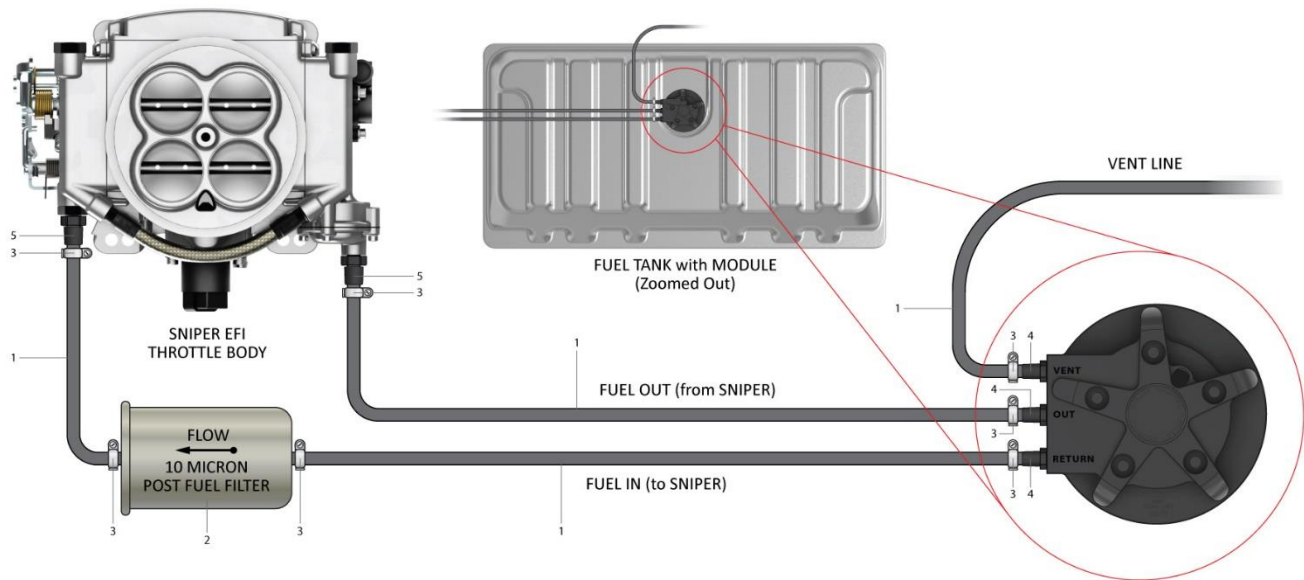

Figure 1 – 526-10 shown above
1. Use **Figure 1** below as a reference for the orientation and location of the fuel system components:
2. The post-fuel filter (**Item 2**) should be installed between the electric pump outlet and TBI unit. This is a 10 micron EFI filter. Position the filter, so the fuel hoses can be routed without kinks or sharp bends. The filter should be installed with the arrow on the filter pointing in the direction of the fuel flow (Figure 1).
You are now ready to install the fuel lines. Some connections will use hose clamps (**Item 5**), while others will use AN hose ends (**Item 5**). These connections are noted in **Figures 1**. Be sure to read and thoroughly understand all steps, notes, and hose assembly instructions (**Section 1.3**) below before proceeding with the fuel line installation.